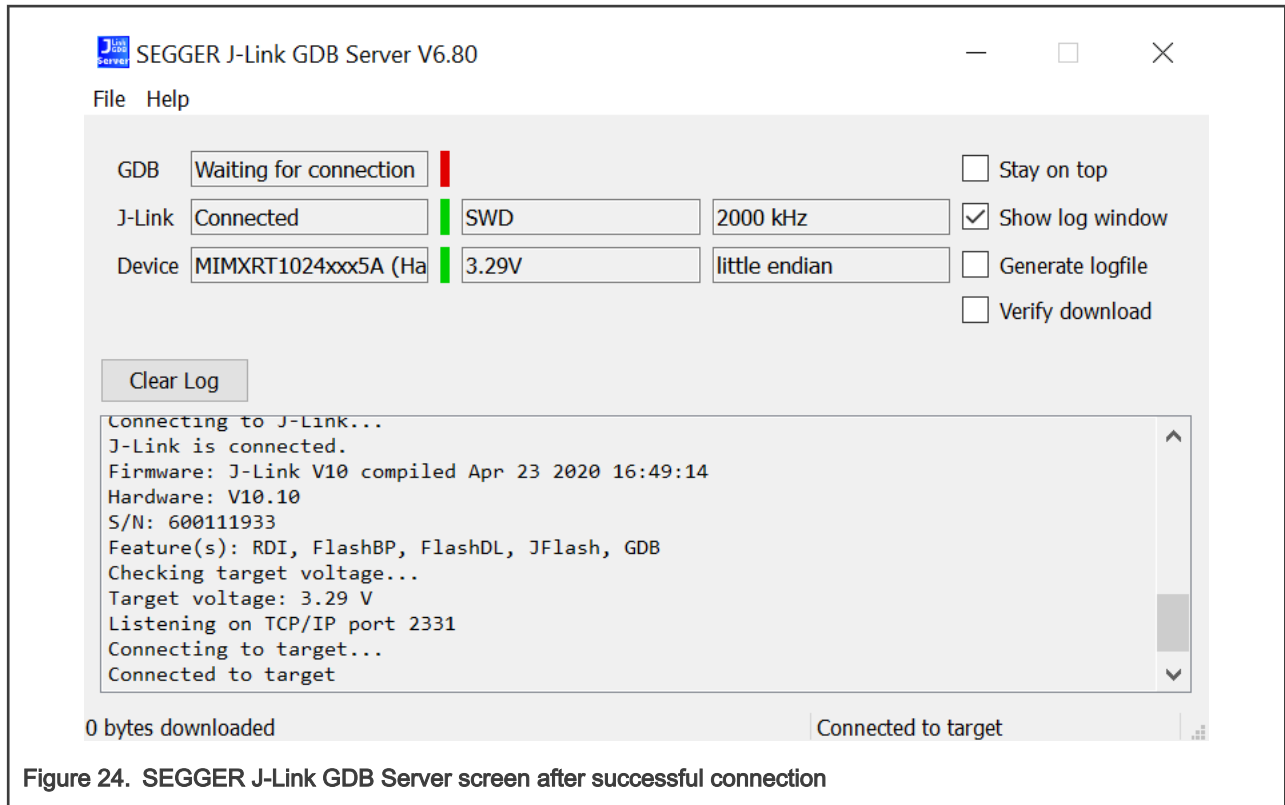

Figure 24. SEGGER J-Link GDB Server screen after successful connection
- After it is connected, the screen should resemble Figure 24.